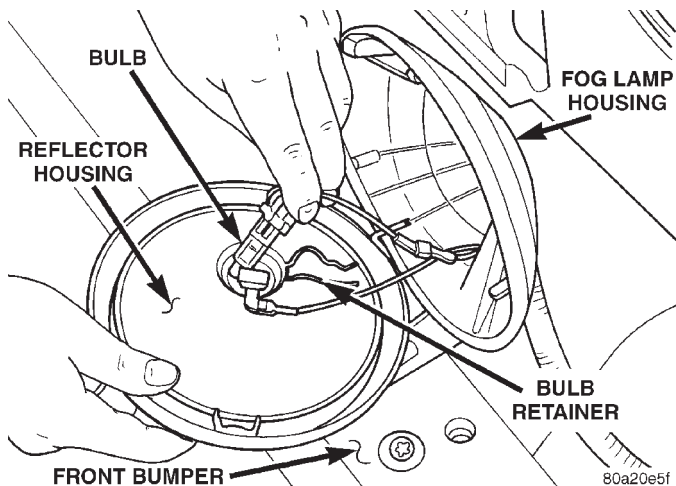

Fig. 1 Fog Lamp Bulb
- (1) Remove the screws that attach the reflector to the lamp housing.
- (2) Separate the reflector from the lamp housing.
- (3) Squeeze the bulb retainer together to disengage it from the reflector.
- (4) Remove the bulb/element from the reflector (Fig. 1).
- (5) Disconnect the electrical connector.